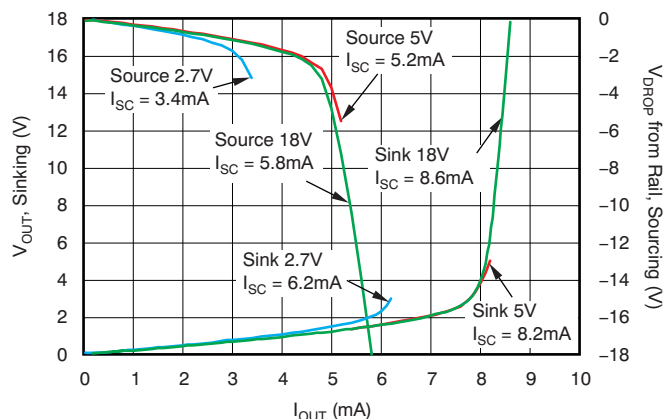

Figure 29.
(6) See typical characteristic graphs Figure 29 through Figure 31.